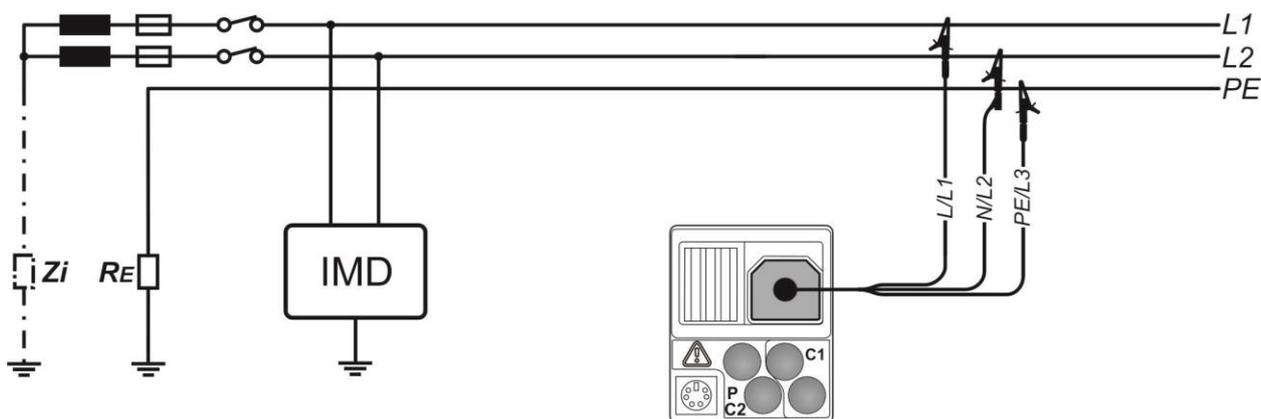

Figure 5.19: Connection for automatic measurement
- ❑ **Connect** 3-wire test lead or mains measuring cable to the instrument and tested item (see Figure 5.19).